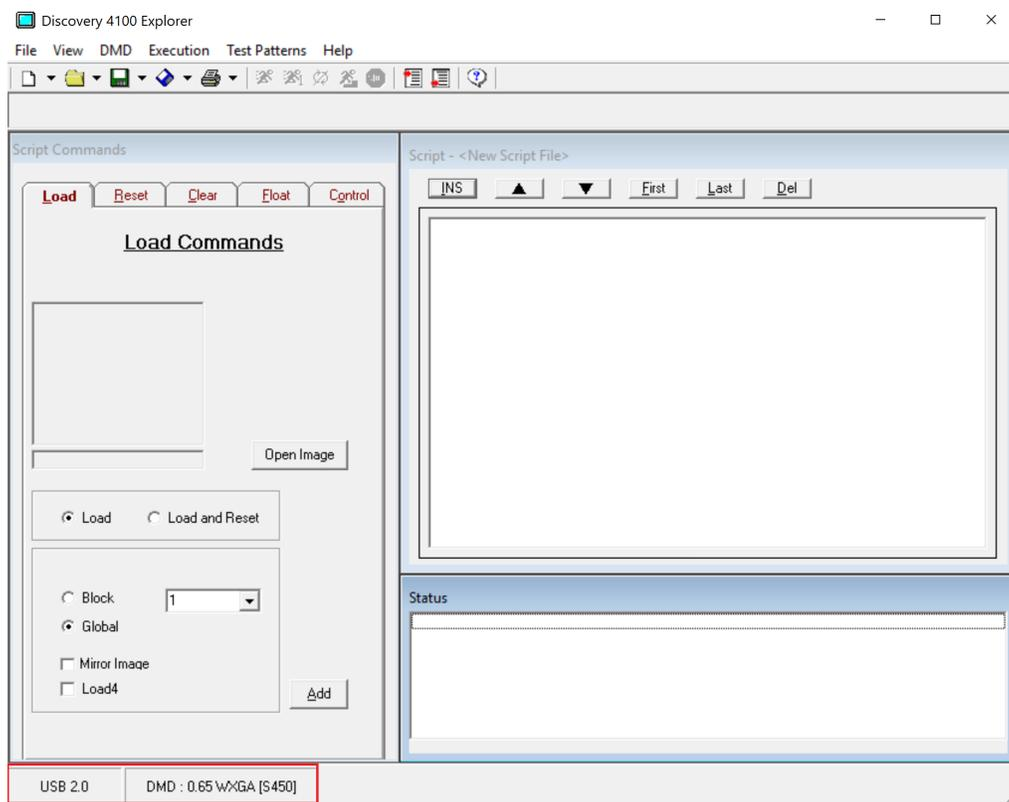

Figure 3-11. Discovery 4100 Explorer USB and DMD - Connection Status
17. The software starts. The USB connection status and DMD type is displayed in the lower left status panel (Figure 3-11):